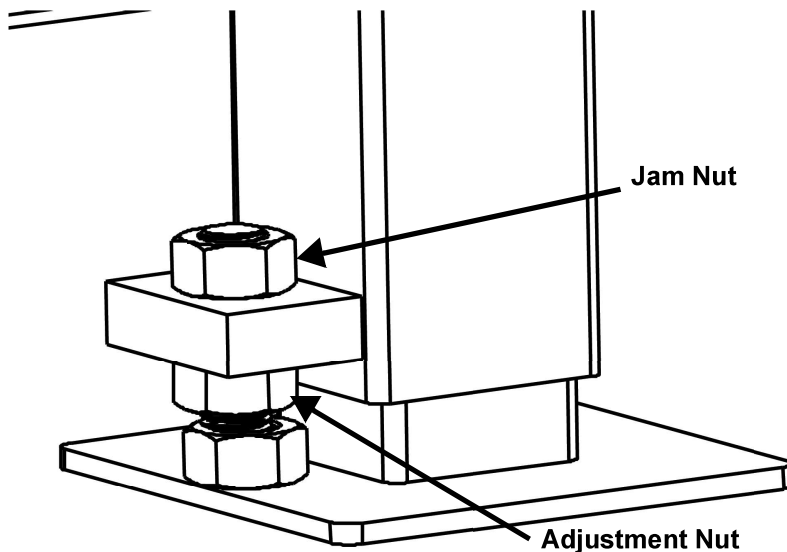

FIG. 4-2
7. The legs are adjusted by loosening the upper jam nut and adjust leg height by tightening or loosening the lower adjustment nut. See Figure 4-2.